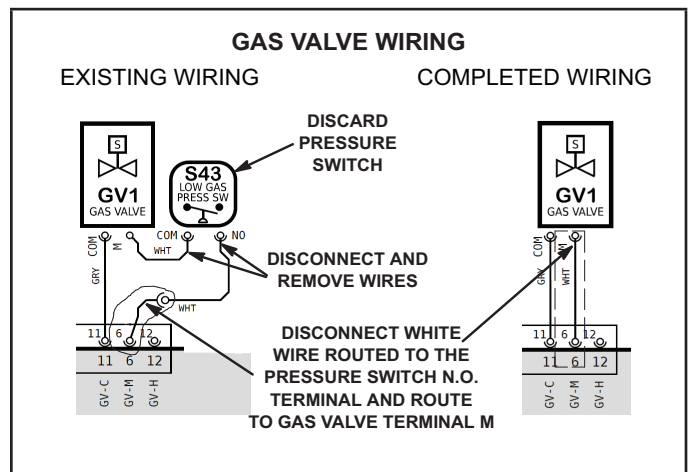

Figure 4
- 10 - Connect gas supply to gas valve. Connect wiring to gas valve as shown in figure 4.